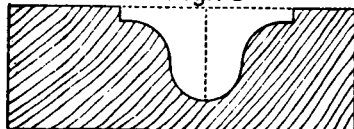
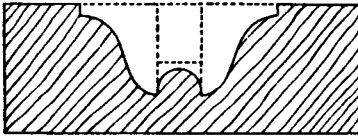
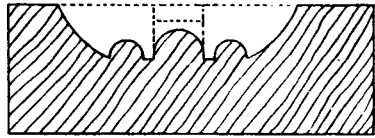
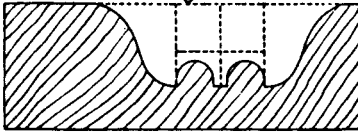

Fig. 72
Fig. 76
Fig. 77
Fig. 78
*Fig. 72* shows a deep moulding of rather unusual section, made by using one of the Roman Ogees from one edge of the wood, then reversing the wood and using the same cutter from the opposite edge, being careful to set the fence so that the two grooves exactly meet at the bottom, thus forming one moulding.
*Fig. 76* shows a moulding similar to *Fig. 72*, but instead of the Ogees coming together, they are divided by a bead. To make this, the Ogees are worked from opposite sides, keeping them far enough apart to leave the width of the bead intact; then reduce the extra stock remaining to the required depth with a plow cutter, and form the bead in the usual way.
*Fig. 77* is worked the same as *Fig. 76*, using the quarter round with bead, but not working it to its full depth.
*Fig. 78* is worked the same as *Fig. 76*, first using the Ogee from opposite sides but far enough apart to leave room for the two beads which are to be made with a regular beading cutter.